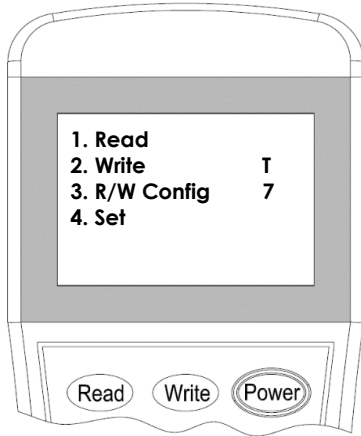

Figure 11
2. Switch-on the programmer, then press button **“3”** to enter to **Configuration mode** (Figure 11).